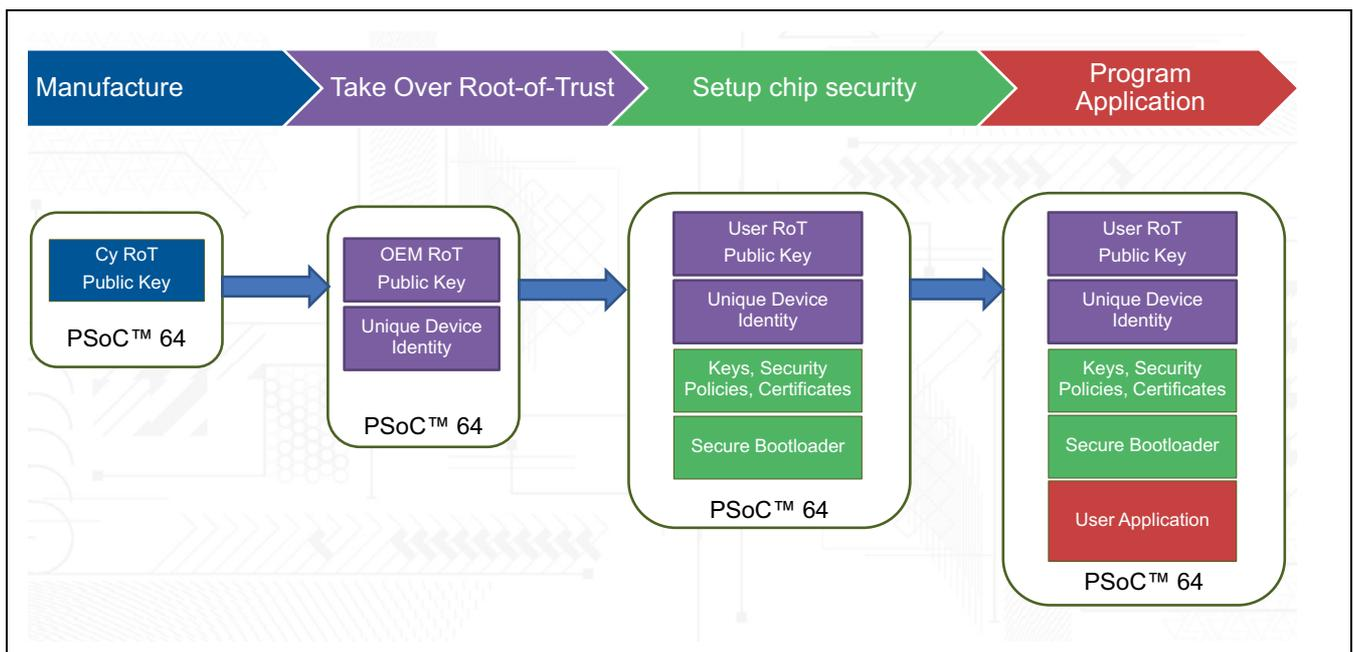

Figure 9 PSoC™ 64 Usage Processes
- Transfer the RoT from Cypress to the user/OEM, as **Figure 9** shows